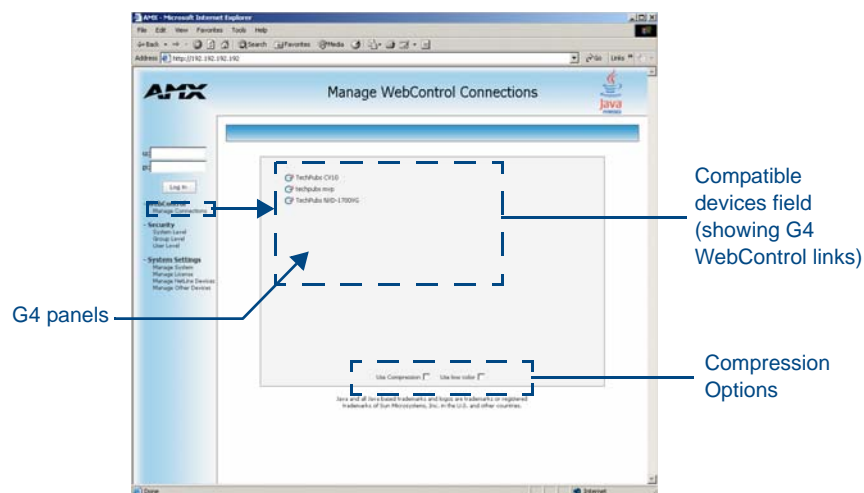

FIG. 43 Manage WebControl Connections page (populated with compatible panels)
4. Click **OK** to enter the information and proceed to the Master's *Manage WebControl Connections* window. This page (FIG. 43) is accessed by clicking on the **Manage connections** link (*within the Web Control section within the Navigation frame*). Once activated, this page displays links to G4 panels running the latest G4 Web Control feature that were previously set up and activated on the device.